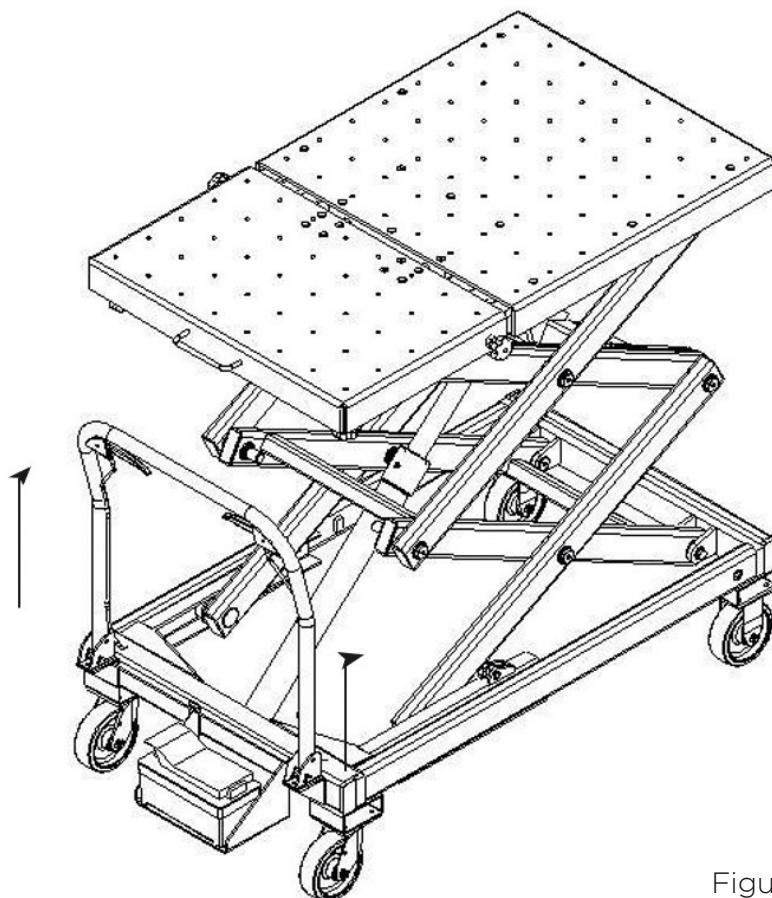

Figure 1
1. Turn forcing screws in/out fully to ensure proper function of platform tilting feature. See Figure 1 of "Fine Adjustment Tilting Feature" section.
The forcing screws shown in Figure 1 allow the user to finely tilt the platform to help remove or install vehicle components. This feature provides a total of two inches of tilt at the front of the platform which helps compensate for uneven shop floors, difficult fastener locations, etc. The forcing screws can be operated by either hand, or wrench or socket, depending on the applied load.